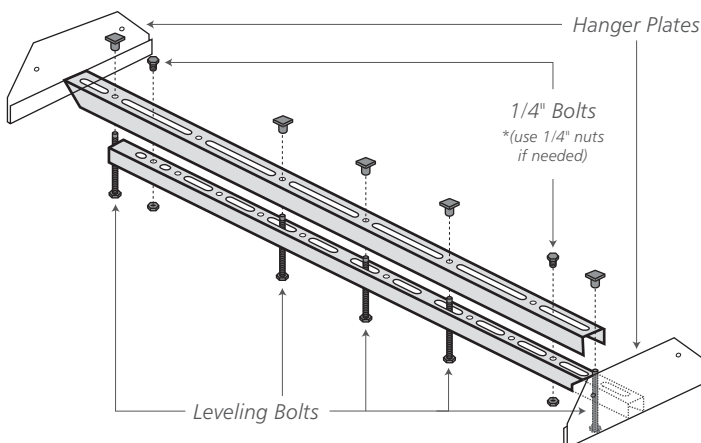

Figure 3
5. Thread the leveling bolts up through the holes in a pattern that will support the sink evenly. It works well to space the leveling bolts at 4" centers if possible. Raise the heights of the leveling bolts to approximately 1 1/2". (See Figure 3)